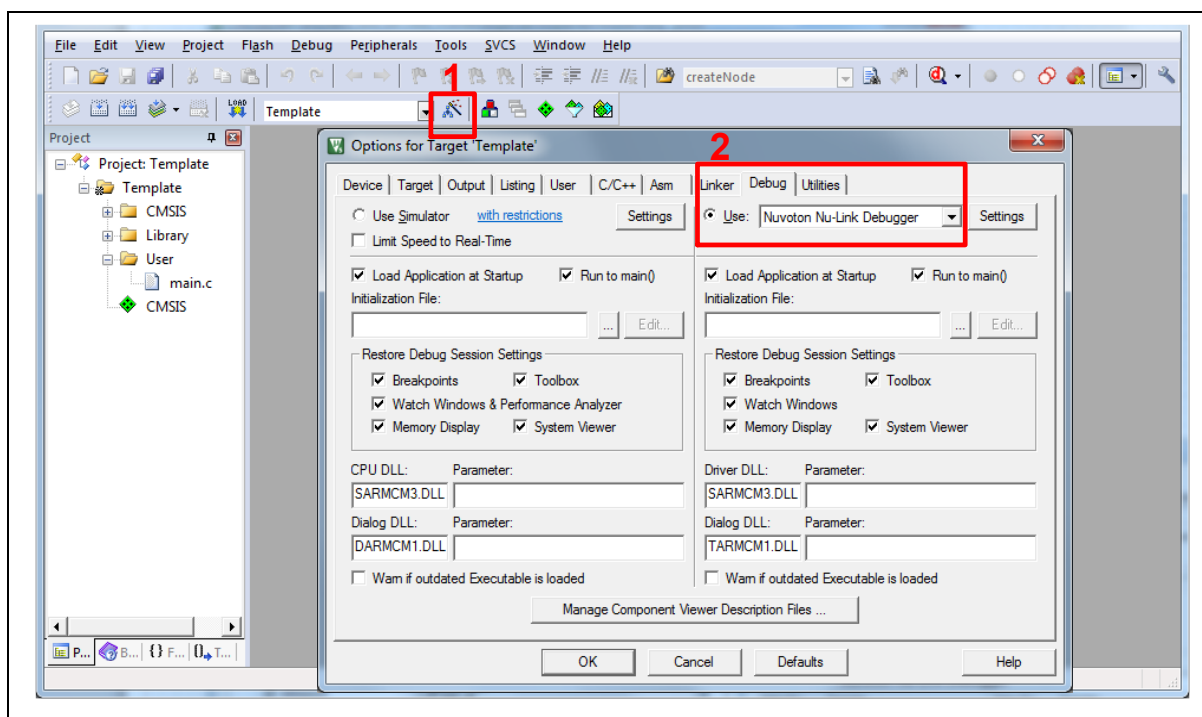
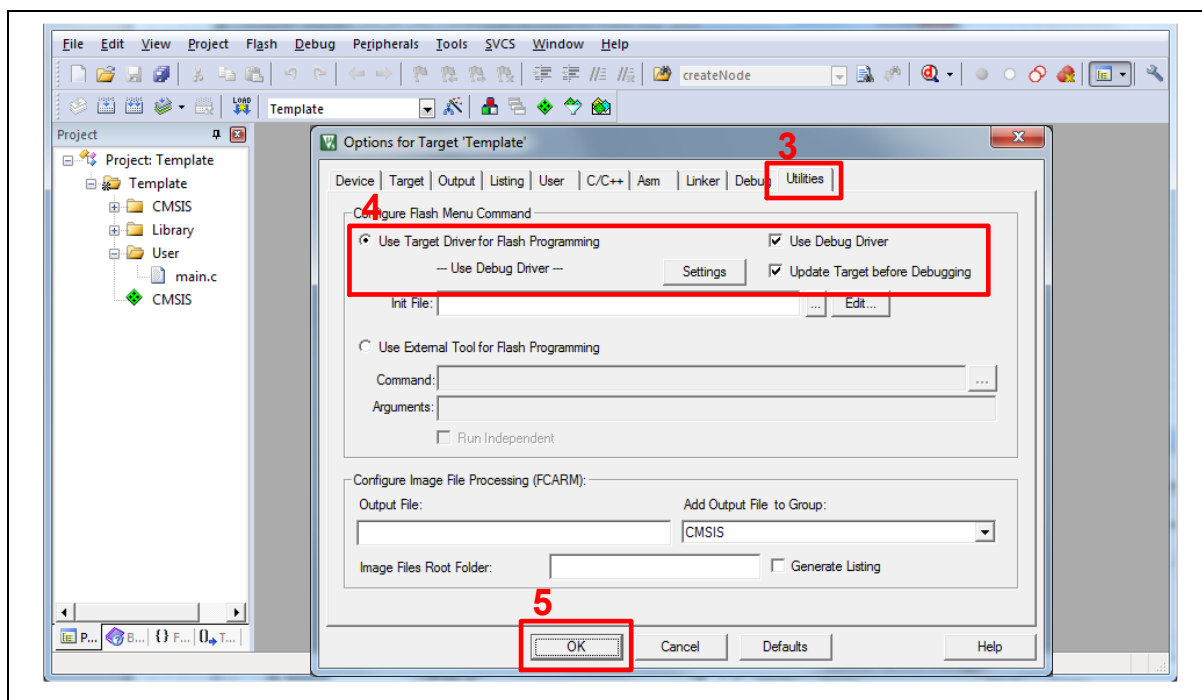

Figure 4-10 Debugger Setting in Options Window
Figure 4-11 Programming Setting in Options Window
2. Make sure the debugger is “Nuvoton Nu-Link Debugger” as shown in Figure 4-10 and Figure 4-11.
Note: If the dropdown menu in Figure 4-10 does not contain “Nuvoton Nu-Link Debugger” item, please rework section 4.2.